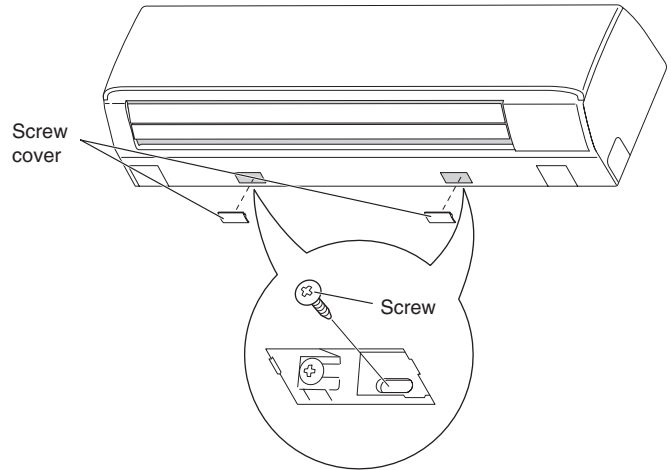

Fig. 1-176
- (1) Remove the screw cover on the bottom surface. (Fig. 1-176)
- (2) Fasten the frame to the rear panel using the 2 supplied tapping screws $5/32 \times 13/32"$ (4×10 mm). (Fig. 1-176)